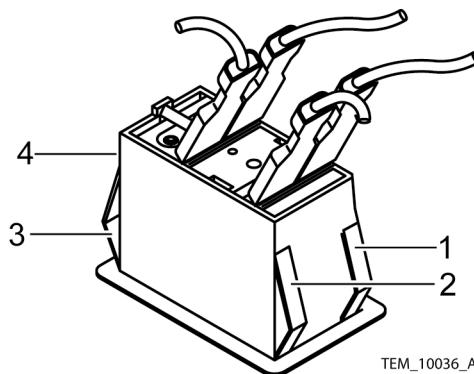

Figure 5-15. Power Switch Clips and Wires
23. Slide the power switch through its hole in the front of the front cover assembly until the four clips on the power switch click into place. Ensure that the "0", marked on the front of the power switch, is towards the bottom of the front cover assembly. See Figure 5-15.